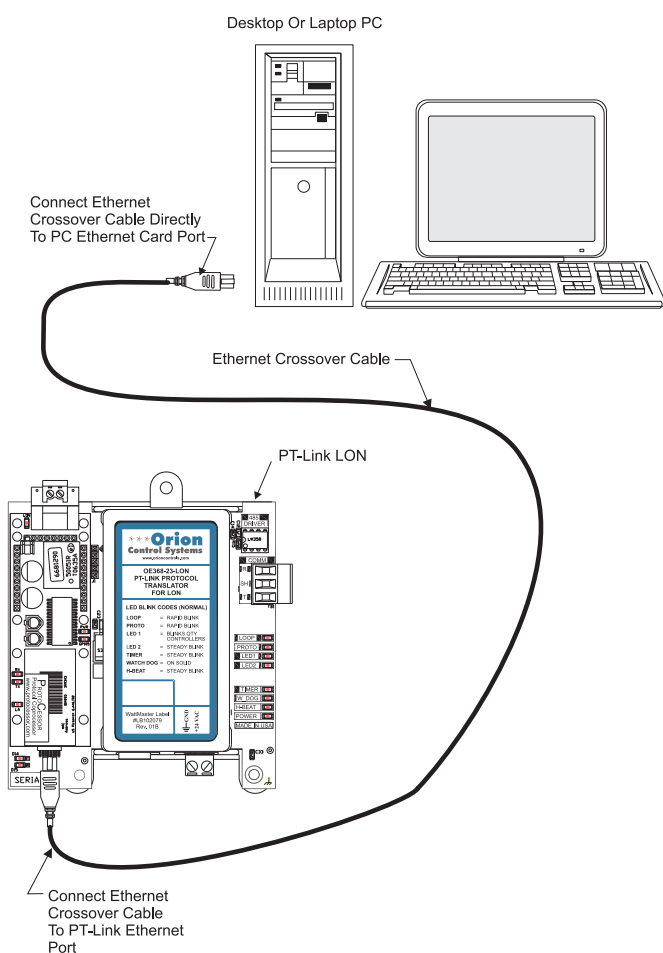

Figure 3: Connecting With Crossover Cable
4. Connect your PT-Link II to your computer using an Ethernet connection (**Figures 3 & 4 on page 6**).
- 1.) You may connect the PT-Link directly to your PC by using a crossover cable (by others) as shown. **See Figure 3** for details.